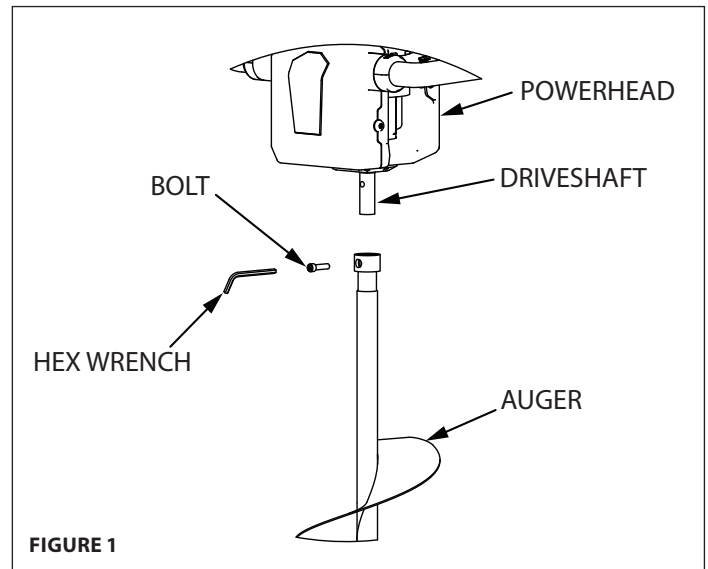

FIGURE 1
3. Remove the protective plastic cap from the driveshaft. Insert the driveshaft of the powerhead into the collar of the auger assembly. **SEE FIGURE 1**